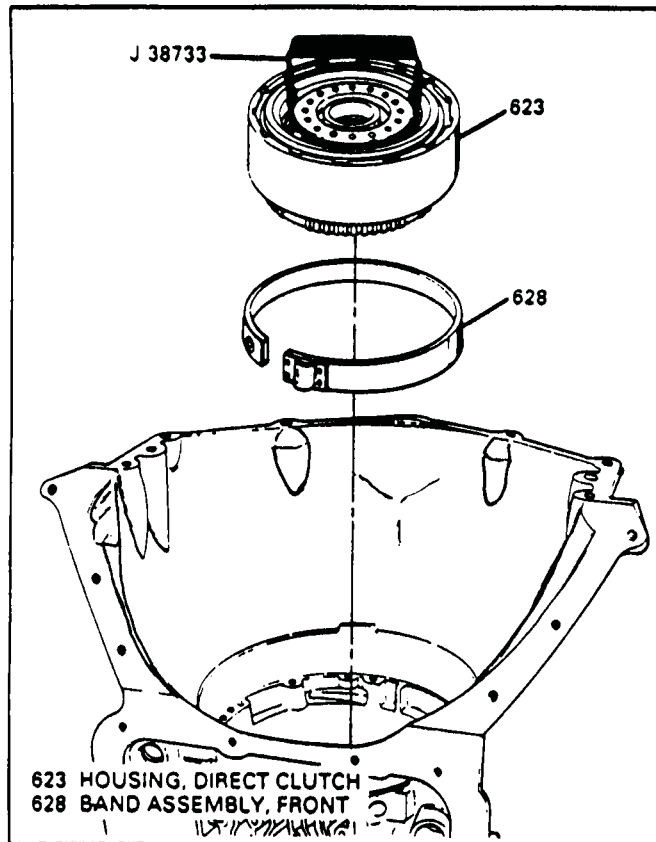

Figure 51
7. Remove the direct clutch housing, as shown in Figure 51, using J-38733.
8. Remove the intermediate (D2) band, as shown in Figure 51.